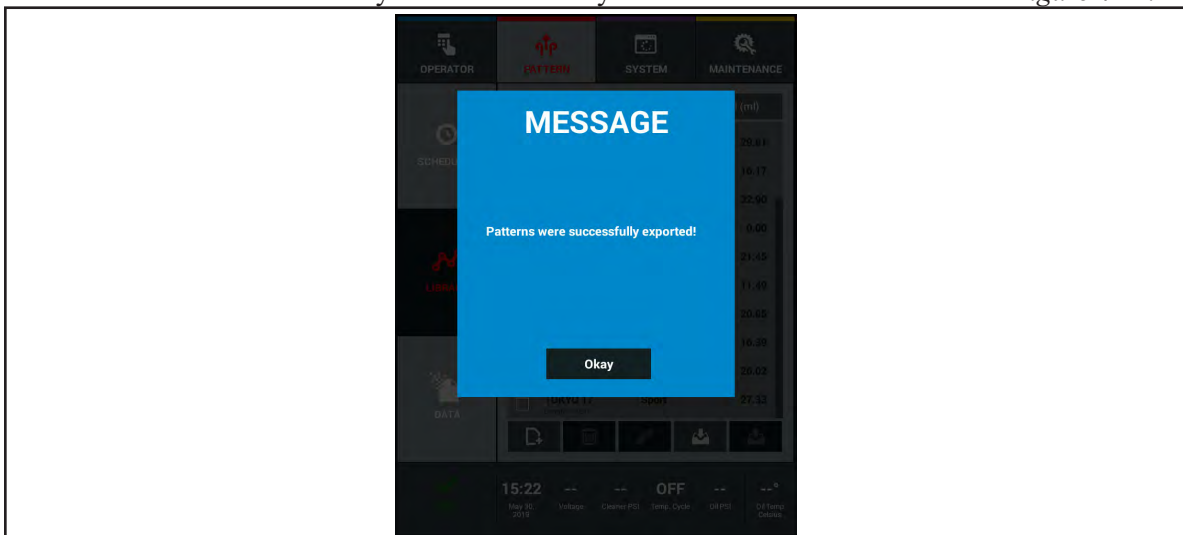

Figure 4-22. Export To Private Library Message
4. Patterns will transfer to your Private Library on the Brunswick Cloud. Refer to *Figure 4-22*.